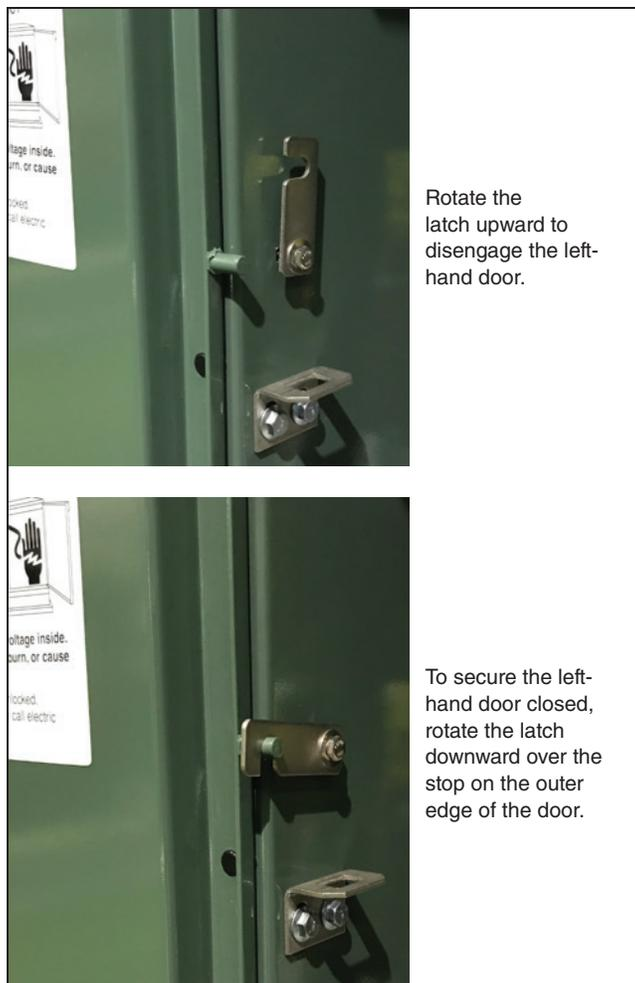

Figure 6. Left-hand door retainer.
STEP 3. *For double-door models of pad-mounted gear:* The left-hand door is secured closed by a rotating latch and is overlapped by the right-hand door which is equipped with the Penta-Latch Mechanism. The left-hand door can be opened after opening the right-hand door and disengaging the rotating latch. To disengage the latch, rotate it upward. See Figure 6 on page 13.
- STEP 1.** Close the left-hand door, where applicable, and secure it with the latch by rotating the latch downward over the stop on the outer edge of the door. See Figure 6. The right-hand door of double-door models of pad-mounted gear is equipped with the Penta-Latch Mechanism which latches automatically when the door is closed.